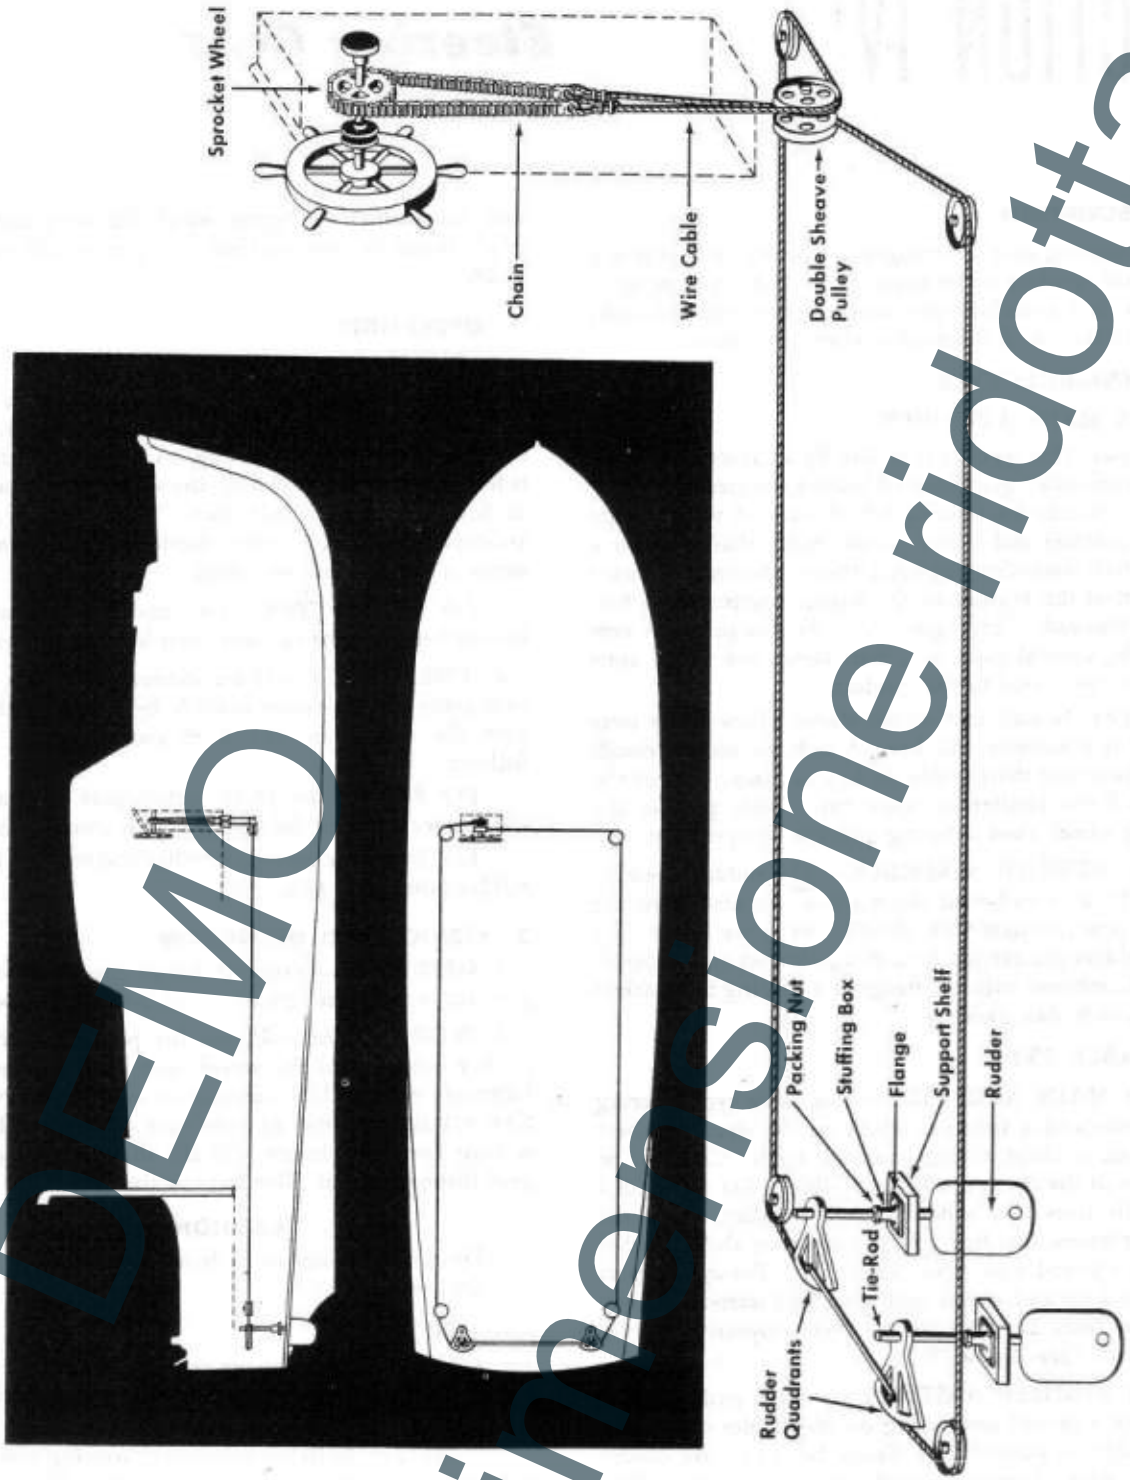

Figure 78—Cable Type Steering System
(1) MAIN ASSEMBLY.—The cable type steering gear consists of a sprocket wheel on the steering wheel shaft with a chain fitting over the teeth. Clamped to each end of the chain is a $\frac{1}{4}$ -inch cable. (See figure 78.) The cable runs over a double sheave pulley, under the sprocket wheel, one line going to the port and the other to the starboard side. (See figure 79.) Pulleys support the cable fore and aft on both port and starboard sides. The two lines are fastened to their respective rudder quadrants. (See figure 78.)
(2) RUDDER ASSEMBLY.—The rudders are joined by a tie-rod connecting on the rudder quadrants. Each rudder is carried by a flange bolted to the rudder support shelf. Combined with the flange is a stuffing box and packing nut.